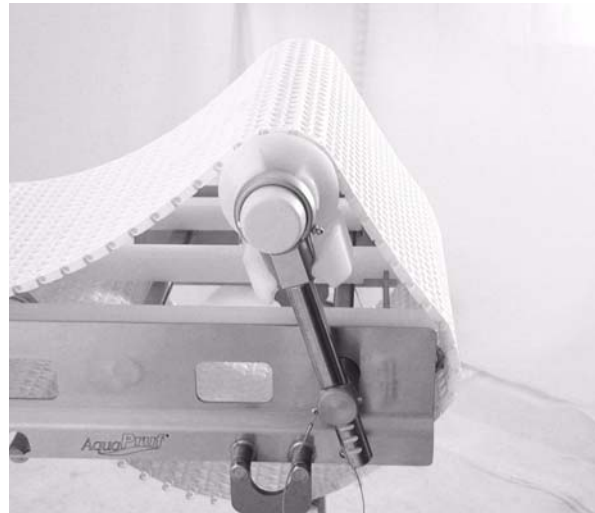

Figure 48
1. Tip up idler tail assembly (**Figure 48**).